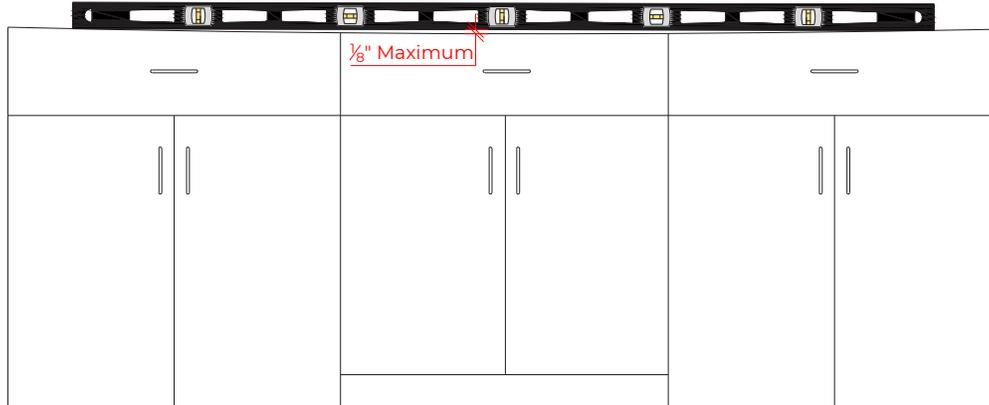

FIGURE 10
8. The cabinets must not be out of plane more than $\frac{1}{8}$ " for every 8' length. See Figures 10 and 11.